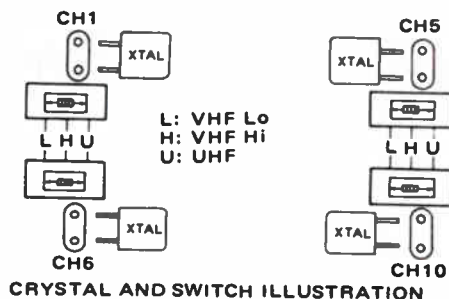

FIGURE 10. CRYSTAL INSTALLATION
Step 2: Couple the frequency counter thru a pickup coil to oscillator coil. Refer to Figure 10.